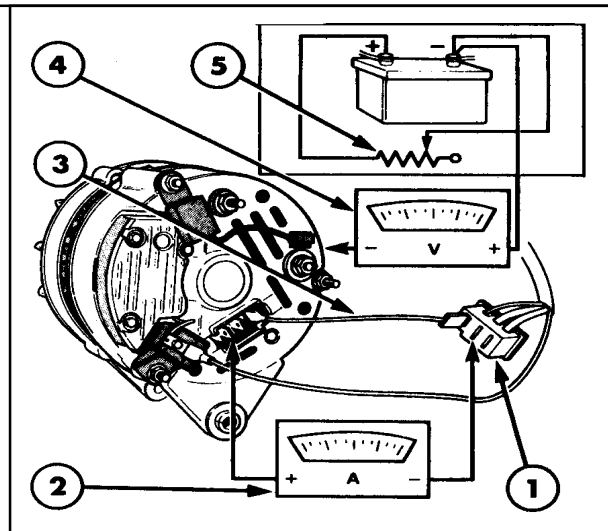

Figure 15
1. With reference to Figure 15. Ensure the key start switch is in the "OFF" position.